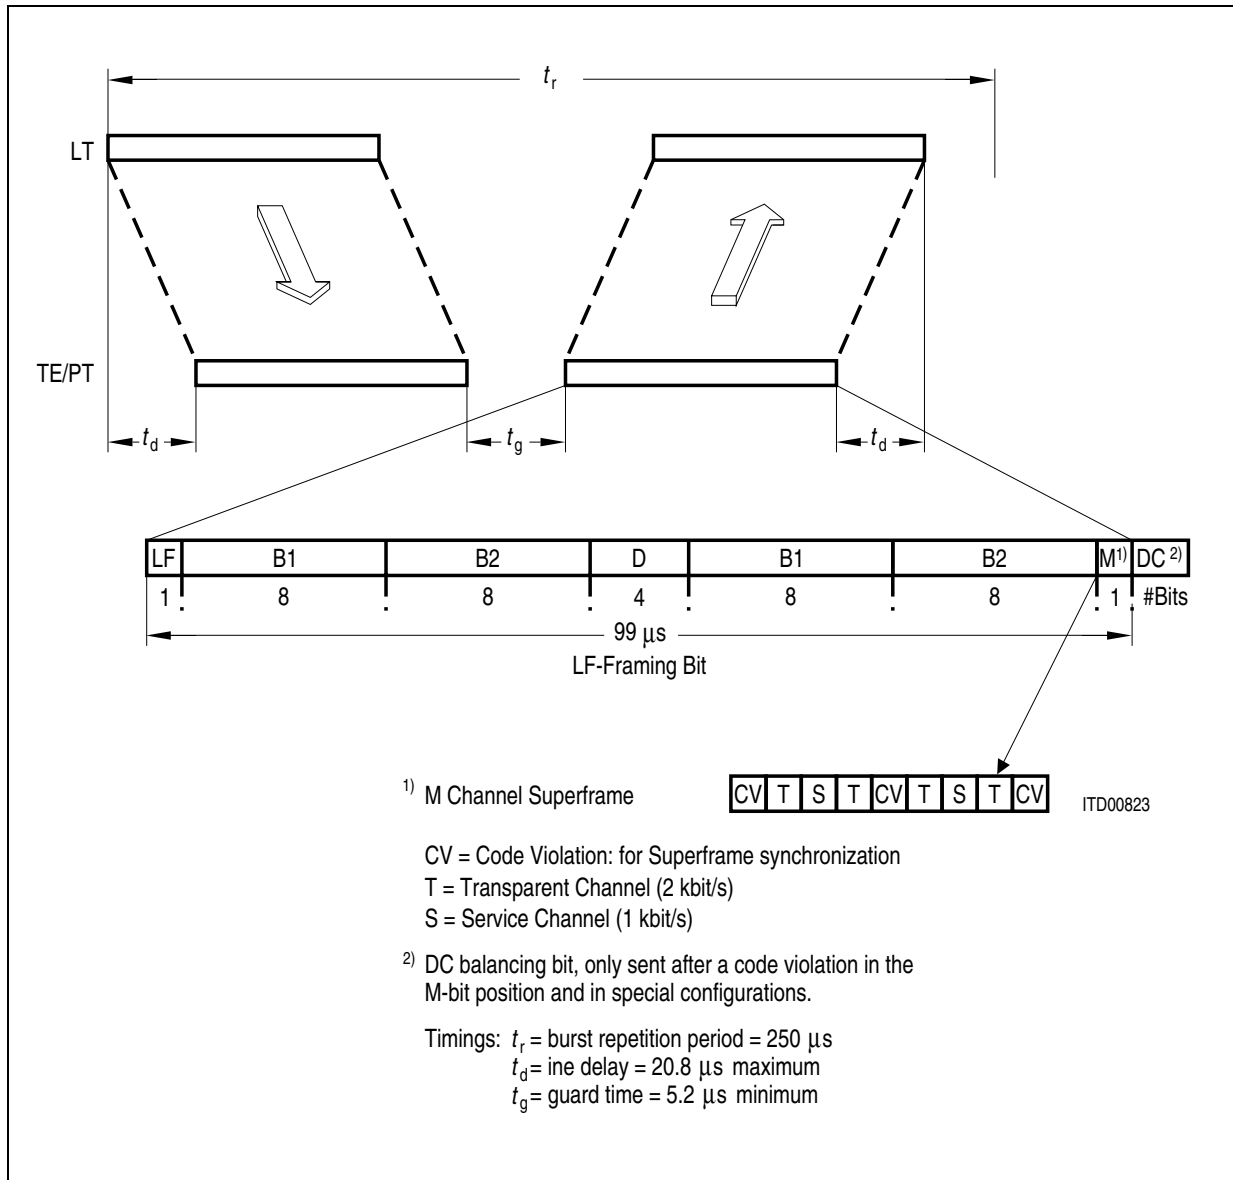

Figure 22 U_PN Interface Frame Structure
The frame structure of the data transfer between the exchange (PBX, LT) and the terminal (TE) is depicted in **Figure 22**.
- A frame transmitted by the exchange (PBX) is received by the terminal (TE) after a given propagation delay t_d .